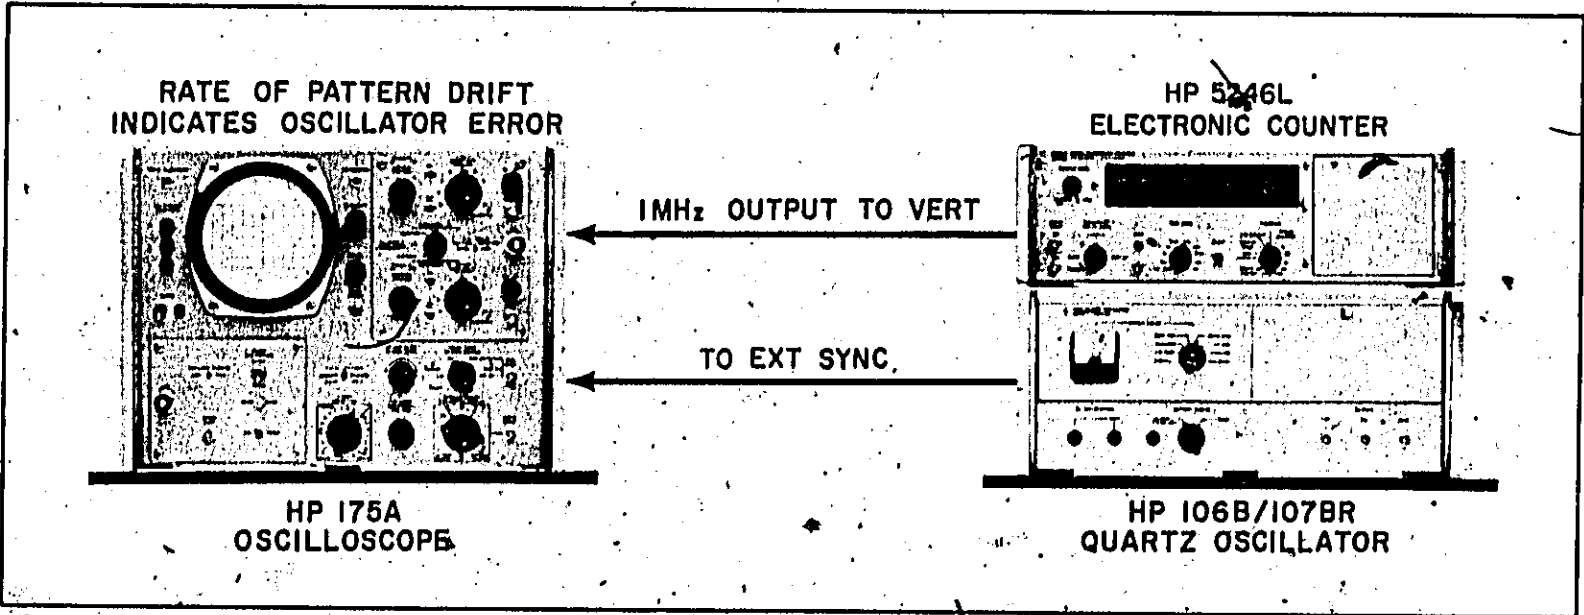

Figure 4-1. Test Setups for Checking Oscillator Frequency
- Adjust Oscillator tuning capacitor C3 (Figure 4-1) until pattern on Oscilloscope stops drifting.